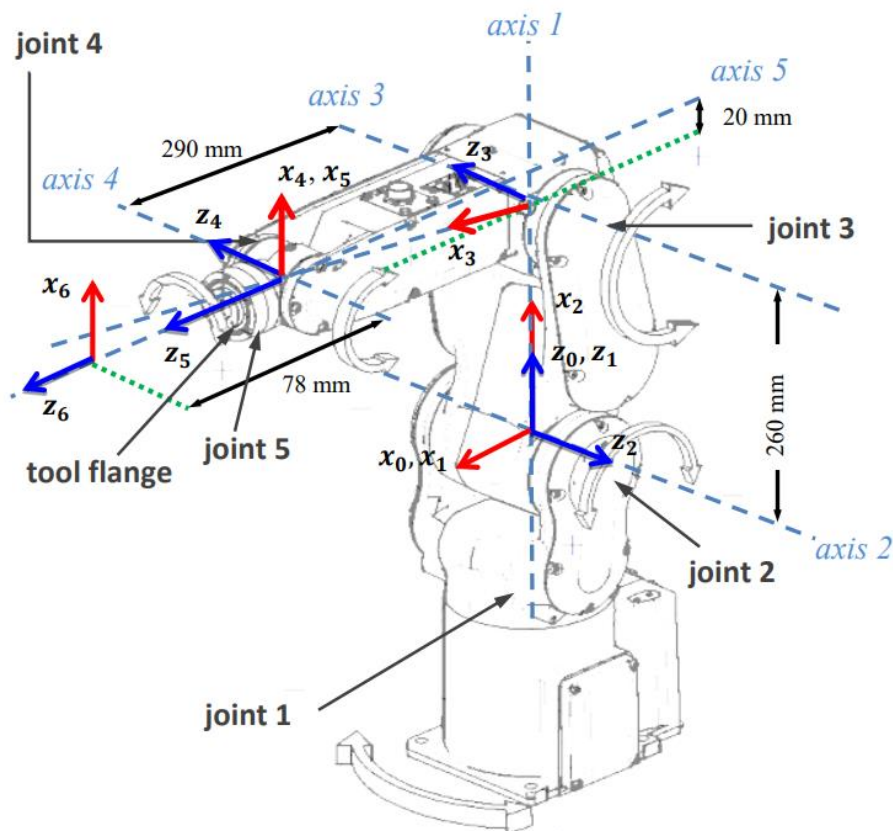

Figure 4: Fanuc dimensions and joint coordinates.
- Refer to Figure 4 for frame definitions and dimensions. Note that the joint variables for the
configuration shown in Figure 4 is